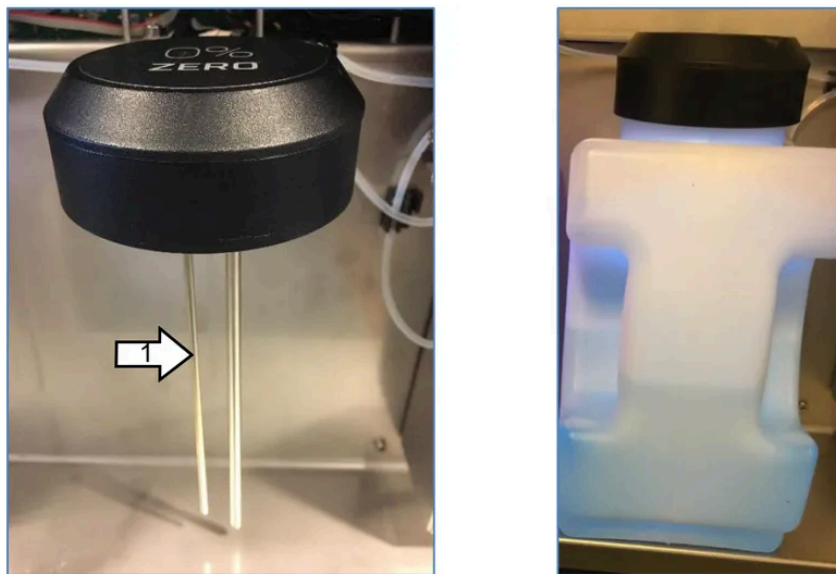

Fig. 23 Zero Pipette Unit and Zero Container
The Zero Pipette Unit (Fig. 23, left) serves as the input mechanism for transferring the Zero reagent from the Zero Container (Fig. 23, right) to the Pump 1 Module. The reagent is drawn into Pump 1 when the pump is activated and Valve V3 is opened.
The pipette features a double-pipe construction with a copper wire positioned between the pipes, functioning as a heater and directly connected to the Pipette Head PCB. The outer tube incorporates a cone-shaped intake to facilitate cleaning. A Liquid Sensor (conductivity-based) (Fig. 23, left, pos. 1) detects the presence of liquid beneath the pipette and verifies whether the liquid is the correct Zero solution. If the solution does not match specifications, a warning is triggered.